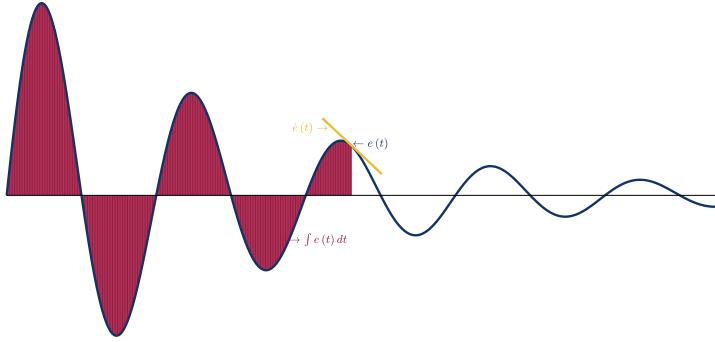

Figure 1.2: Arbitrary error signal with a PID controller acting on it
- Figure 1.2 illustrates the concepts of a PID controller. You have some error signal, where the proportional term acts on the current state of the system, the integral term sums up all previous error, and the derivative term attempts to predict and control future error.